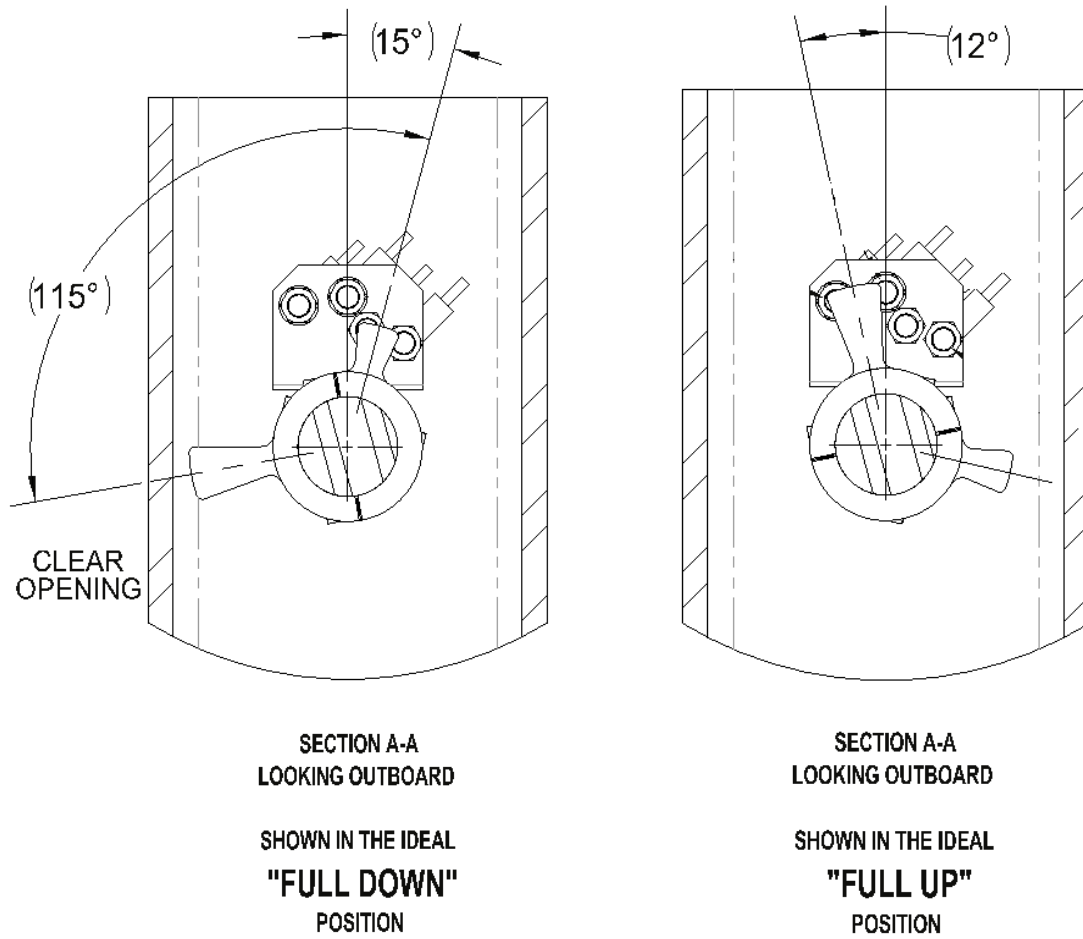

Figure 18 - Sensor UP/DOWN Positioning
- 3.3.8.1.4. Adjust the Flag collar to match the position as illustrated in the “FULL DOWN” position. See *Figure 18 - Sensor UP/DOWN Positioning*. Tighten the cap screws.
- 3.3.8.1.5. Manually move the barrier arm to the full upright position. IF needed, adjust the flag collar to match the position as illustrated in the “FULL UP” diagram. See *Figure 18 - Sensor UP/DOWN Positioning*. Tighten the cap screws.